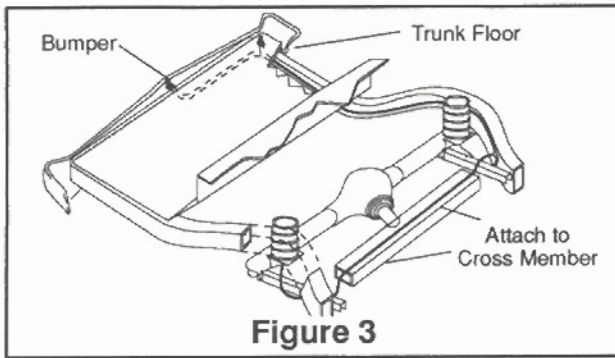

Figure 3
- K. Select a location for inflation valve in the trunk, rear bumper, fender flange or behind the license plate, insuring that the valve will be protected and accessible with air hose (Figure 3 & 5).